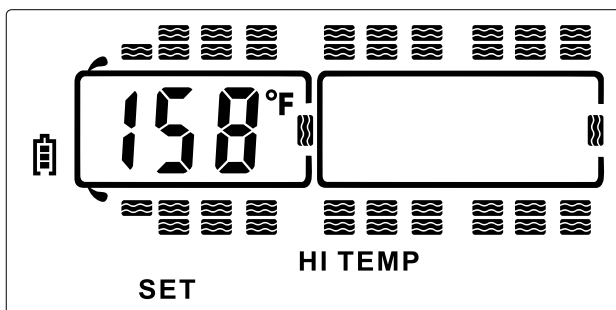

Figure 21: High Temperature Set Parameter Screen
4. Press the **+** button or the **-** button to adjust the high temperature alert. See *Figure 21*.